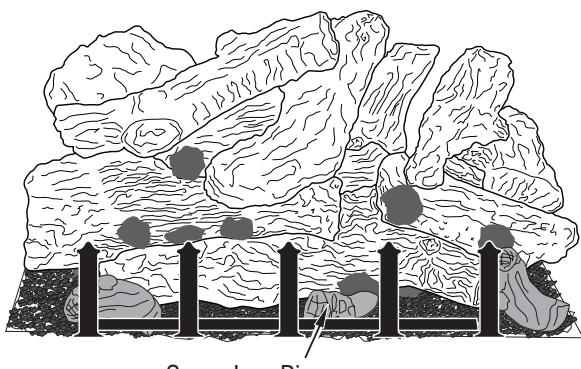

Figure 32 - Installing Scrap Log Pieces
5. Place scrap log pieces randomly behind grate as shown in Figure 32 on volcanic stone and around (but not on) burner ports.
6. Place grate in front of logs as shown in **Figure 32, Page 21**. Be sure grate is balanced so it does not fall or lean onto logs. Grate does not attach to hearth assembly.